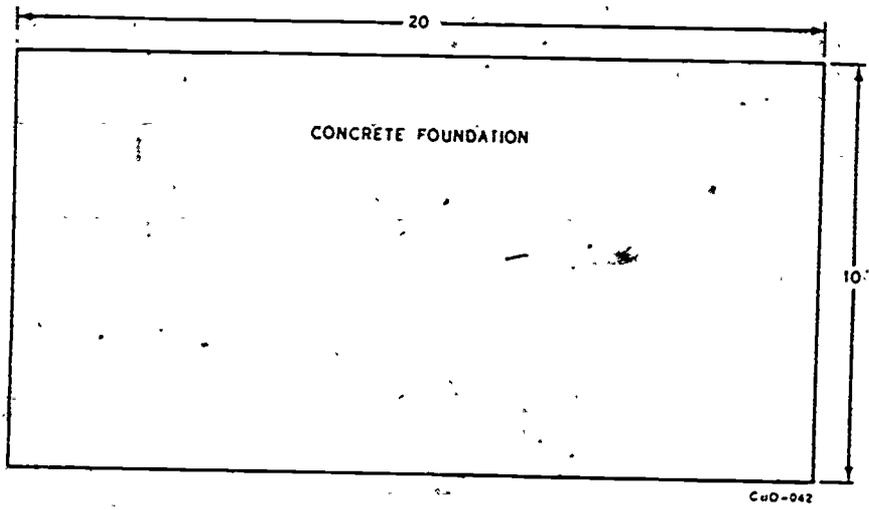

Figure 5. Rectangular Building
1. Lay out a rectangular building (see figure 5) 20-feet long and 10-feet wide.